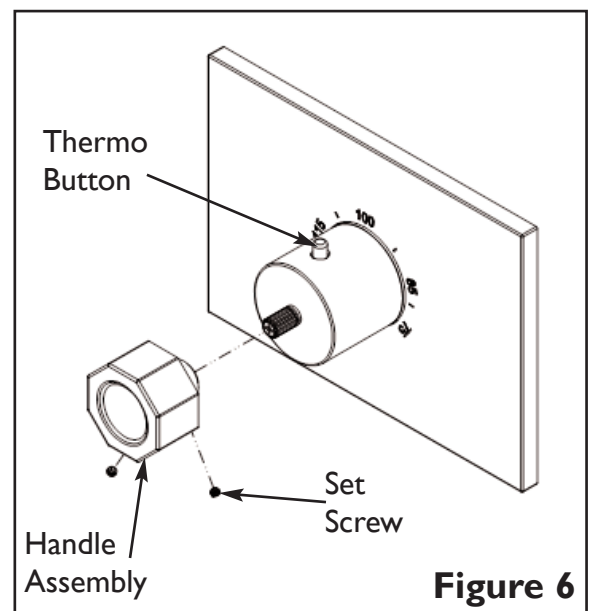

Figure 6
- Place Handle Assembly onto bonnet stem and secure with Set Screw. (see **Figure 6**)